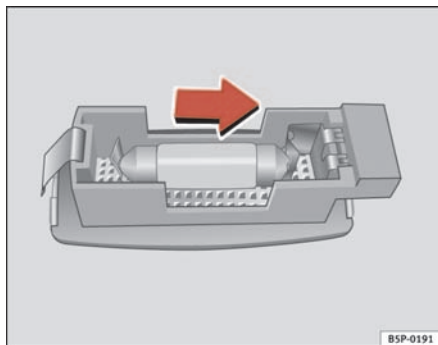

Fig. 193 Removing sunroof light
- Carefully remove the lamp, using the flat side of the screwdriver, as shown in the figure ⇒ fig. 193.
- Remove the lamp, moving it in the direction of the arrow and outwards ⇒ fig. 193. ■